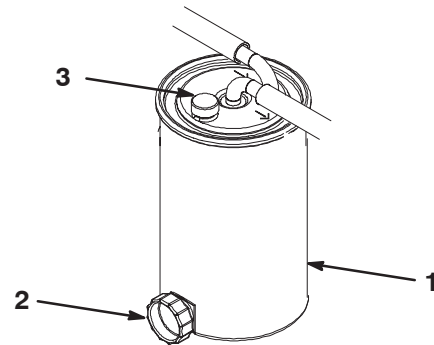

Figure 9
1. Clean the area where the filter canister mounts (Fig. 9).
3. Open the filter drain plug and breather valve (Fig. 9).